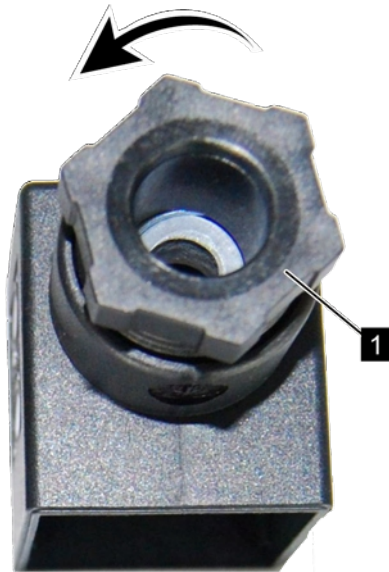

Fig. 23: Loosen the screw connection
4. ➤ Unscrew the screw connection (Fig. 23/1) by turning in the direction of the arrow
8. ➤ Retighten the screw connection (Fig. 23/1) by turning it to the right